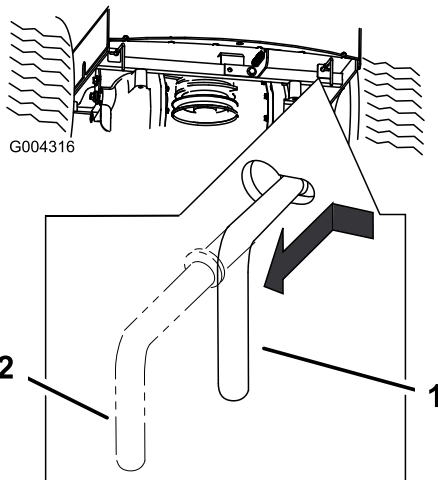

Figure 22
3. Move the two bypass levers to the inside and push them in until the washer on the rod passes through the slot (Figure 22).
4. Push the levers outward to lock them in place (Figure 22).
Move each bypass lever to the inside and pull them rearward, completely through the slot (Figure 22). Push the levers outward to lock them in place.